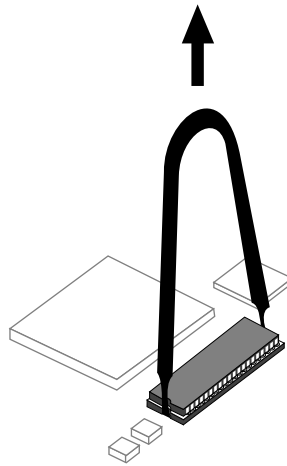

Figure 2-12 Removing the PROM Chip from the Socket
- You received a chip removal tool - it looks like a pair of huge tweezers. Insert the chip removal tool between the PROM chip and the socket on the board, as shown in Figure 2-12. Work the chip away from the socket in a rocking motion, pulling up on one side of the chip and then on the other side.